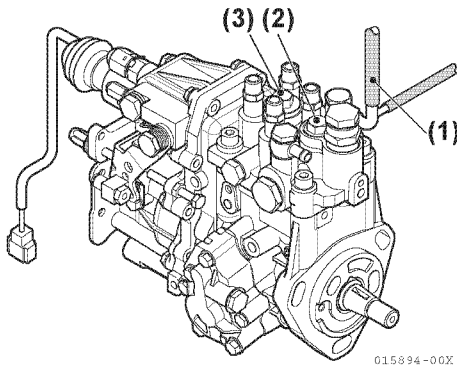

Figure 6-81
2. Clamp shut the fuel injection pump fuel return hose (**Figure 6-81, (1)**). *NOTICE: Clean the top of the fuel injection pump to prevent any contamination when the fuel injection pump plunger plug is removed.*
3. Remove the forward fuel injection pump plunger plug (**Figure 6-81, (2)**) on the top of the fuel injection pump. *NOTICE: Do not release the distributor plug (**Figure 6-81, (3)**). Fuel injection order may change from the proper order.*